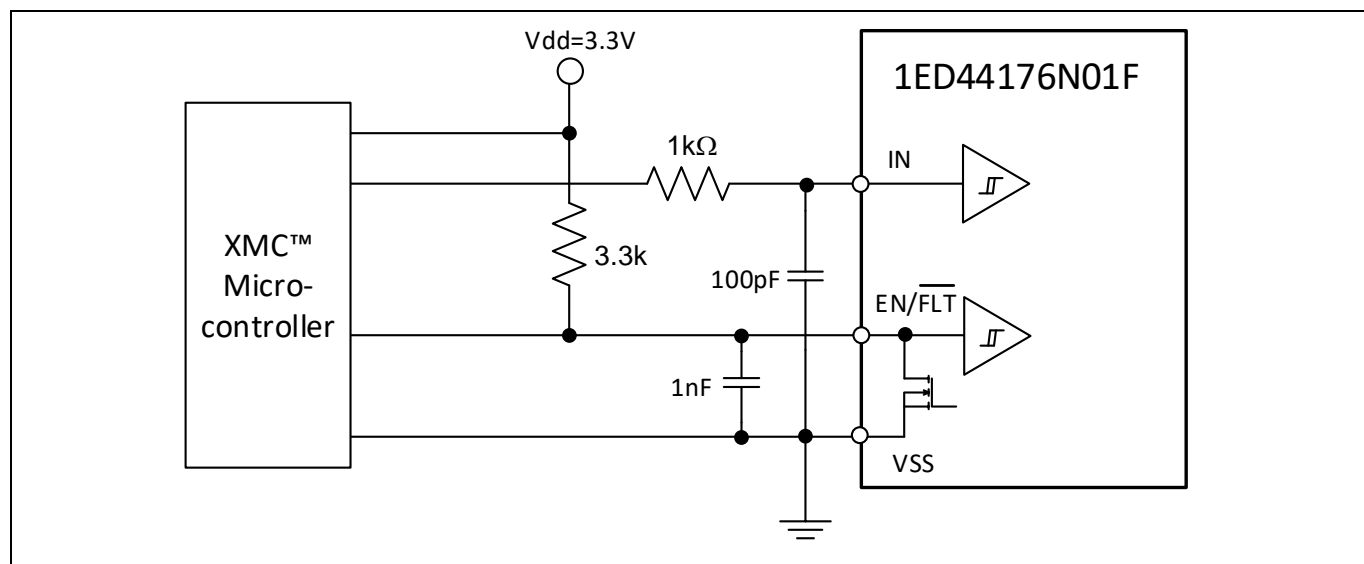
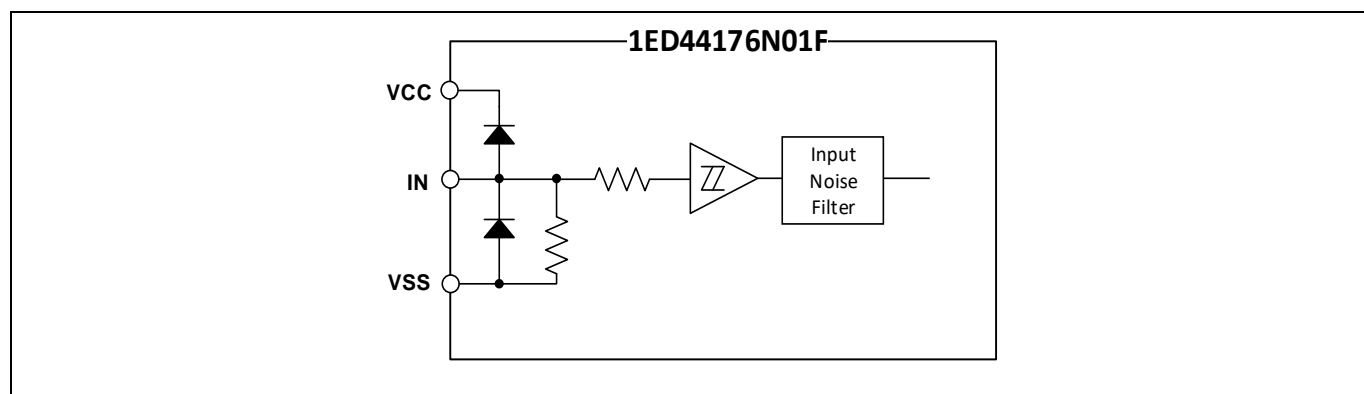

Figure 3 Recommended micro-controller I/O interface circuit
Figure 4 Simplified input structure diagram of 1ED44176N01F
- To prevent signal oscillations, an RC coupling is recommended as illustrated in Figure 3.
Figure 3 shows the I/O interface circuit between a micro-controller (μC) or digital signal processing (DSP) and the 1ED44176N01F. The 1ED44176N01F input logic is active-high. The $\text{EN}/\overline{\text{FLT}}$ output is an open-drain configuration. This signal should be pulled up to high by an external logic power supply with a pull-up resistor. A 3.3k pull-up resistor is recommended if the external logic power supply is 3.3 V.
As shown in Figure 4, the 1ED44176N01F input signal section integrates a pull-down resistor. Therefore, when using an external filtering resistor between the micro-controller output and 1ED44176N01F input, pay attention to the signal voltage drop at the 1ED44176N01F input terminal. It should fulfill the logic "1" input voltage requirement. For instance, R = 1 k Ω and C = 100 pF are recommended for the parts shown in Figure 3.